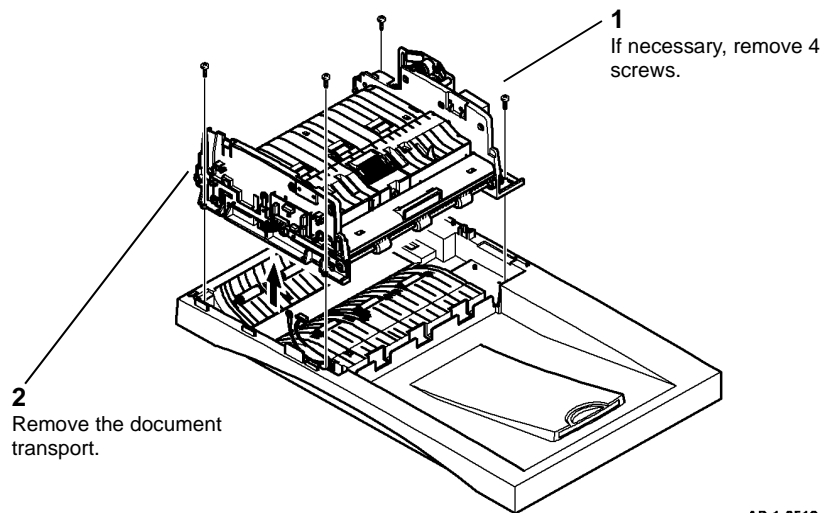

Figure 13 Document transport removal
14. Remove the document transport, Figure 13.